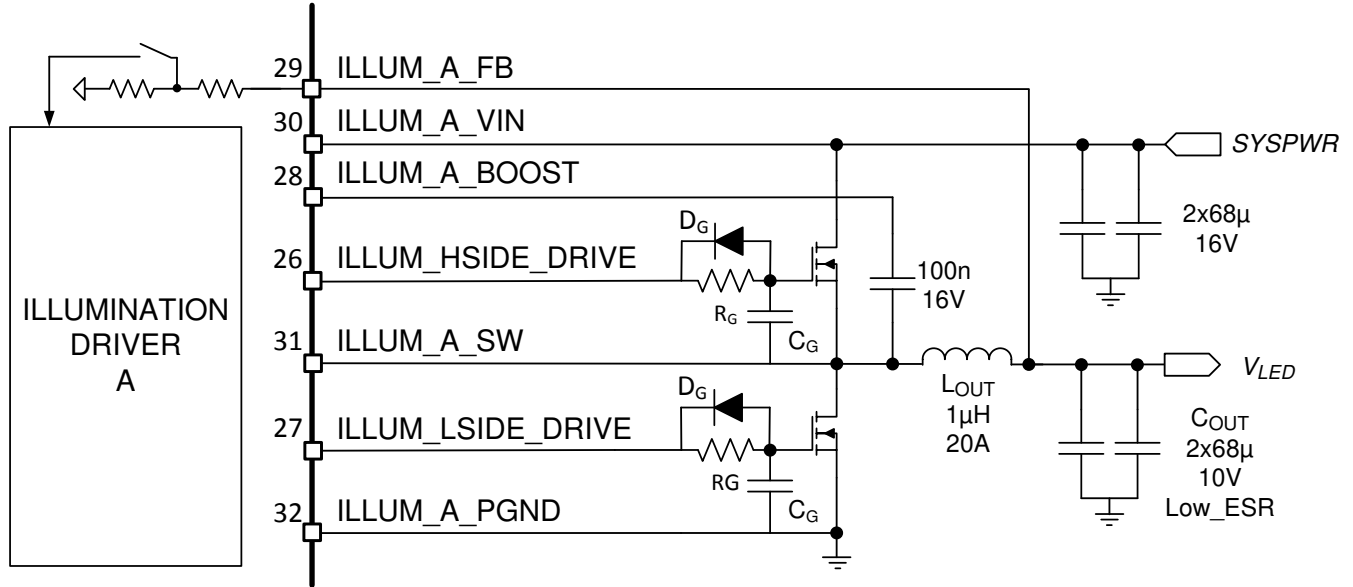
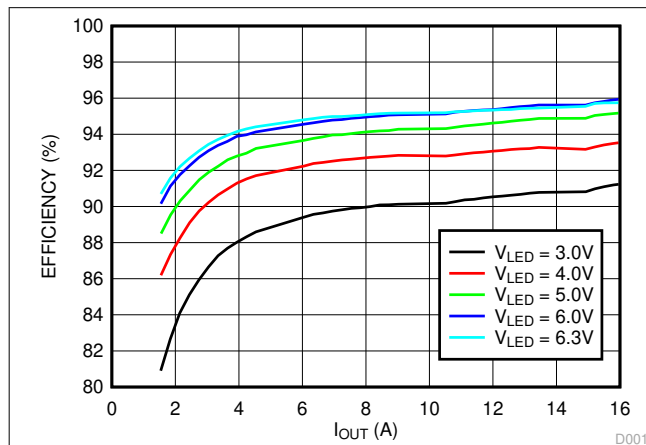

图 7-4. Typical Illumination Driver Configuration
图 7-10. Illumination Driver Plus Power FETs Efficiency ( $V_{ILLUM\_A\_IN} = 12\text{ V}$ )
The illumination driver of the DLPA3005 is a buck controller for driving two external low-ohmic N-channel FETs (图 7-4). The theory of operation of a buck converter is explained in the application note Understanding Buck Power Stages in Switchmode Power Supplies. For proper operation, selection of the external components is very important, especially the inductor  $L_{OUT}$  and the output capacitor  $C_{OUT}$ . For best efficiency and ripple performance, an inductor and capacitor should be chosen with low equivalent series resistance (ESR).
Below (图 7-10) an overview is given of the efficiency of the illumination driver plus power FETs for an input voltage of 12 V. Used external components (图 7-4): High-side FET (L) CDS17506Q5A, Low-side FET (M) CDS17501Q5A,  $L_{OUT} = 2 \times 2.2 \mu\text{H}$  parallel,  $C_{OUT} = 88 \mu\text{F}$ . The efficiency is shown for several output voltage levels ( $V_{LED}$ ) versus output current.